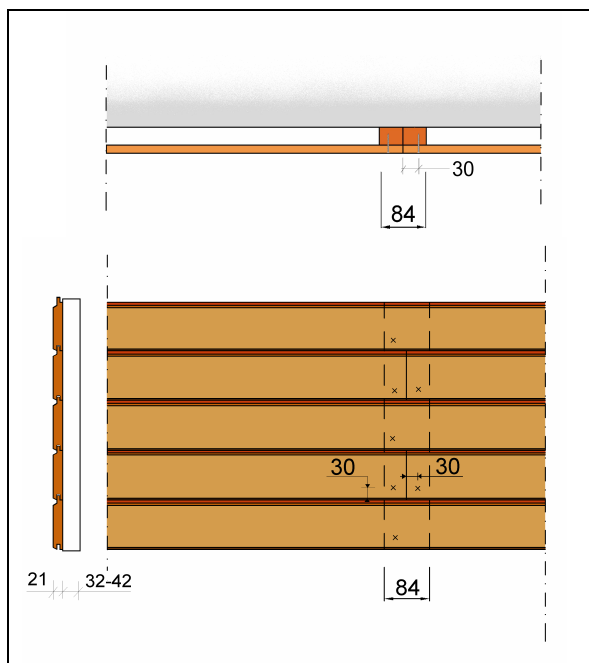

Figure 3. Where joints occur the batten width should be a minimum of 84 mm.
8. Where boards are butt-jointed the junction should always occur over battens. If 42 mm wide battens are used, it will be necessary to double batten the position where cladding boards meet to assure that nail fixing is at least 30 mm from the end of the board (figure 3).